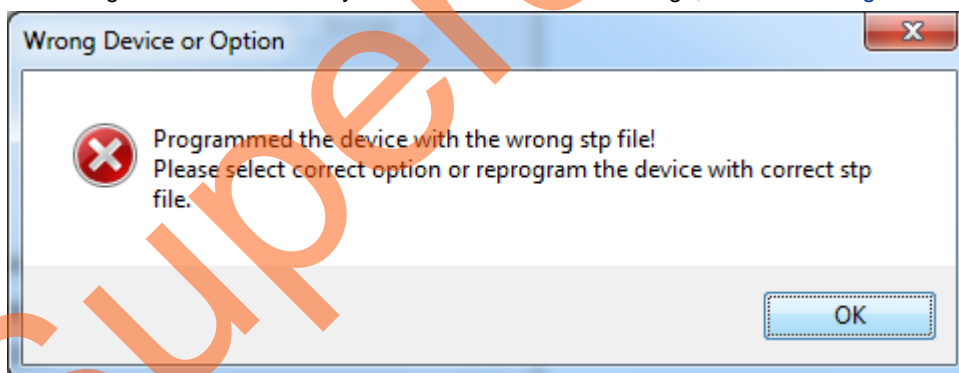

Figure 10. Wrong Device or Option Message
10. If the SmartFusion2 SoC FPGA device is programmed with a STAPL file in which MDDR is not configured for DDR memory then it shows an error message, as shown in Figure 10.